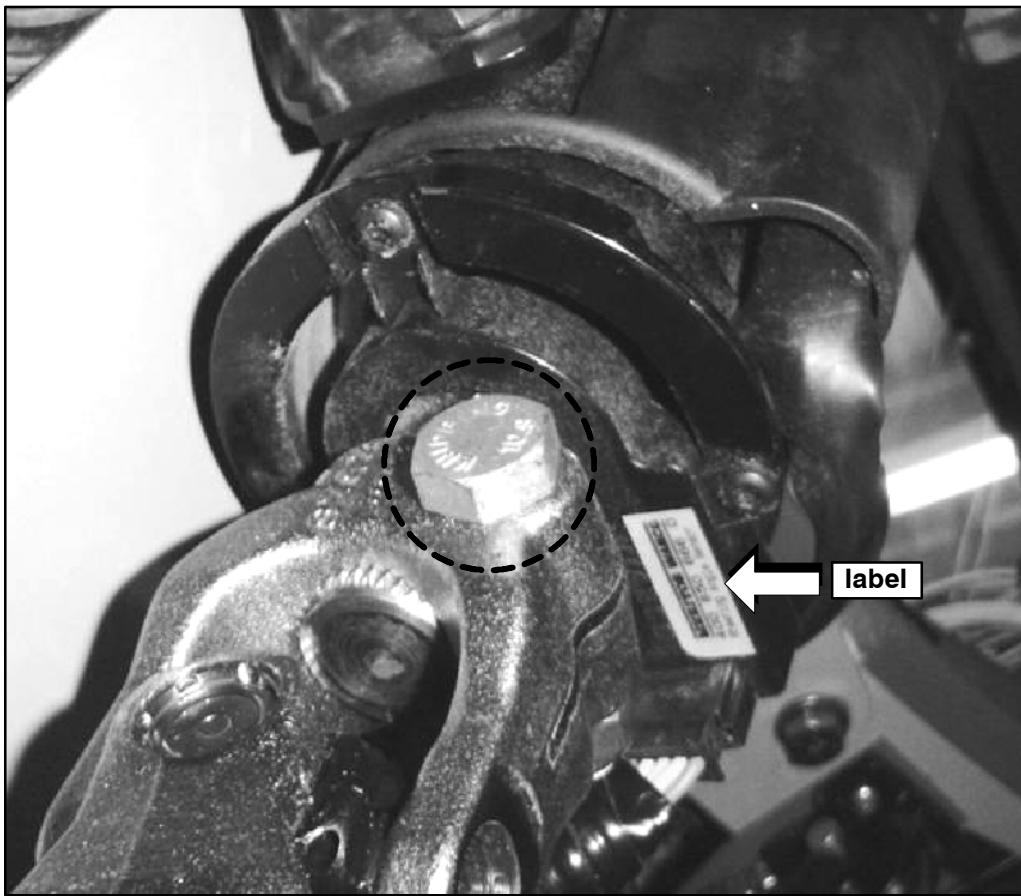
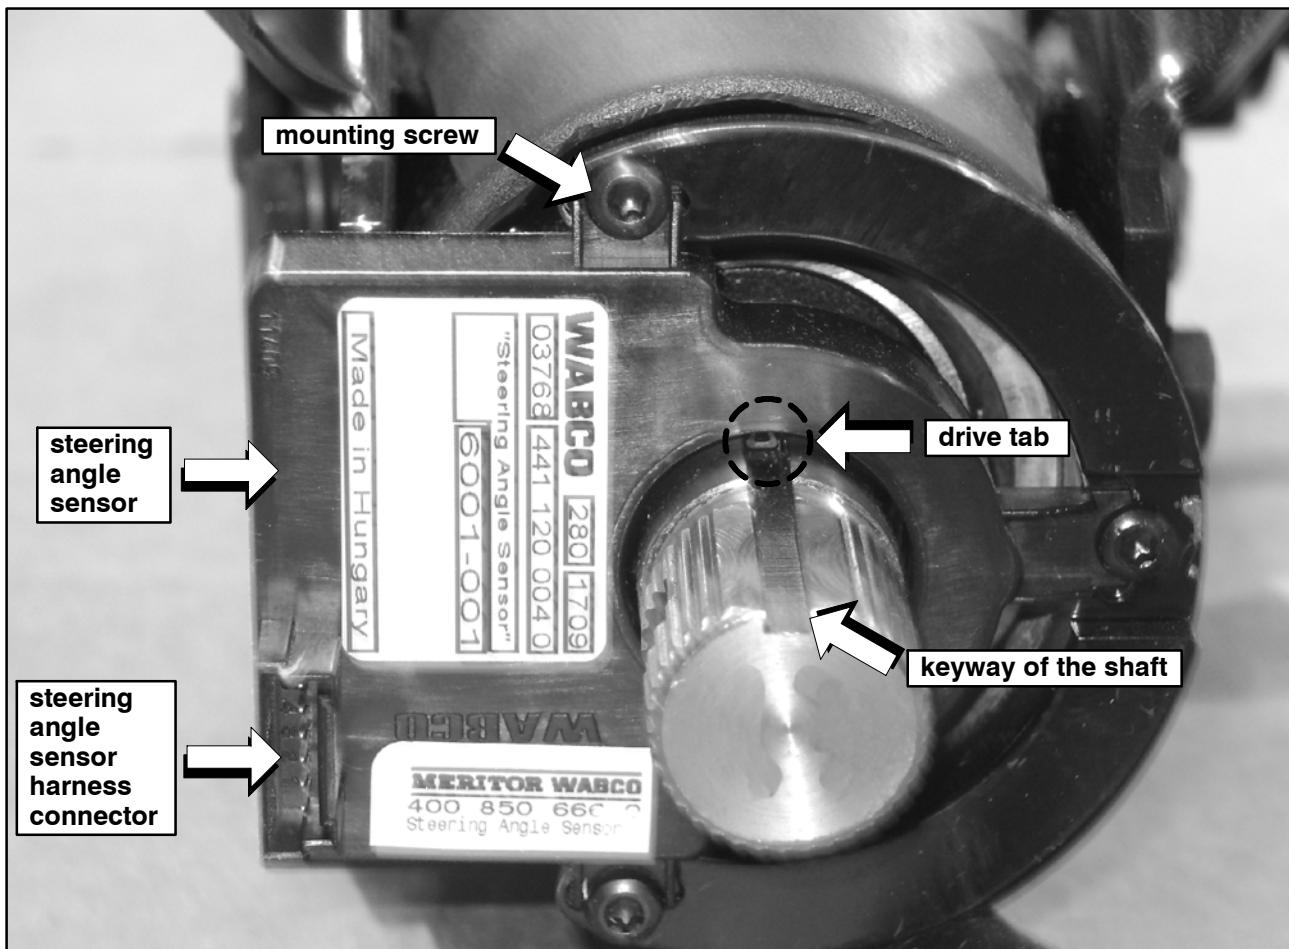

Figure 2.
Figure 7.
4. Locate the steering angle sensor serial number label (refer to Figure 2).
6. Locate and note the orientation of the steering angle sensor wiring harness connector (refer to Figure 7). Carefully disconnect the steering angle sensor harness.
7. Locate and remove the clamp bolt and nut that secure the upper universal joint yoke to the steering column shaft (refer to Figure 2).
10. Loosen the four (4) 3/8 capscrews mounting the steering column to the mounting bracket allowing the column to be rotated upward and forward. This will allow the universal joint yoke to separate from the steering column shaft splines.
11. Locate the steering angle sensor (refer to Figure 7).
12. Remove and discard the three (3) steering angle sensor mounting screws (refer to Figure 7).
13. Remove and retain the existing steering angle sensor (refer to Figure 7), to be returned to MCI.
14. Apply the supplied lubricant to the mating surface of the new steering angle sensor drive tab and the keyway of the shaft (refer to Figure 7).
15. Align the new steering angle sensor drive tab and the keyway of the shaft. Carefully install the new steering angle sensor as per Figure 7 and secure using the three (3) screws in the Parts kit. Torque screws to 20–22 lb-in. Record the new steering angle sensor serial number and submit with paperwork to be returned to MCI.